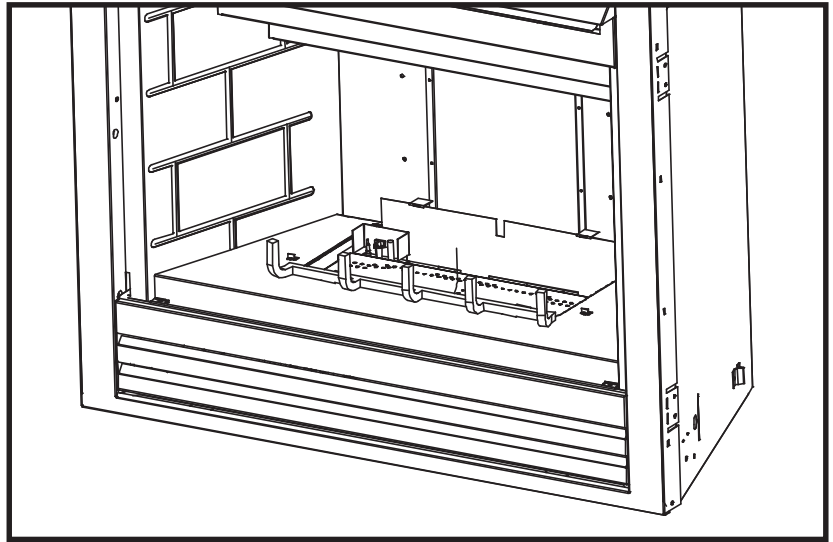

Figure 37
6. Position the grate into the cutout in the refractory. Hook the grate into position using the tabs on the bottom of the grate. Make sure the grate is pulled forward on the refractory (see Figure 37).